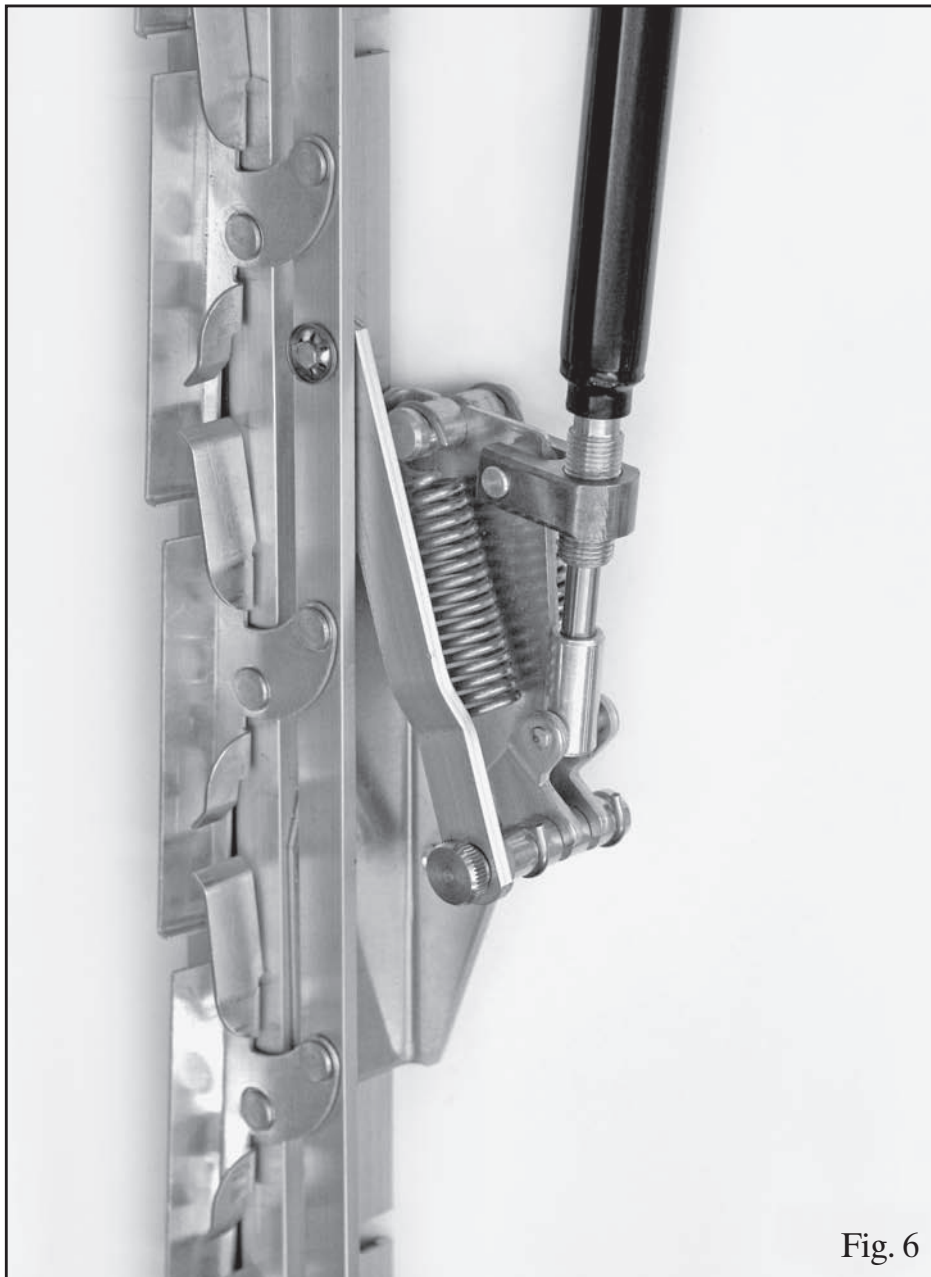

Fig. 6
11. Wind the cylinder into the cylinder-housing (2) until equal much of the thread is visible on either side of the housing. Ensure that the piston rod has been entered into the rod holder (4) – see fig.6